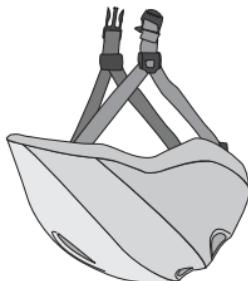

Figure 7. Left Temple Straps and Right Temple Straps Have Matching Lengths
3. Pull the right temple strap through the right strap adjustor until it is the same length as the left temple strap (Figure 7).